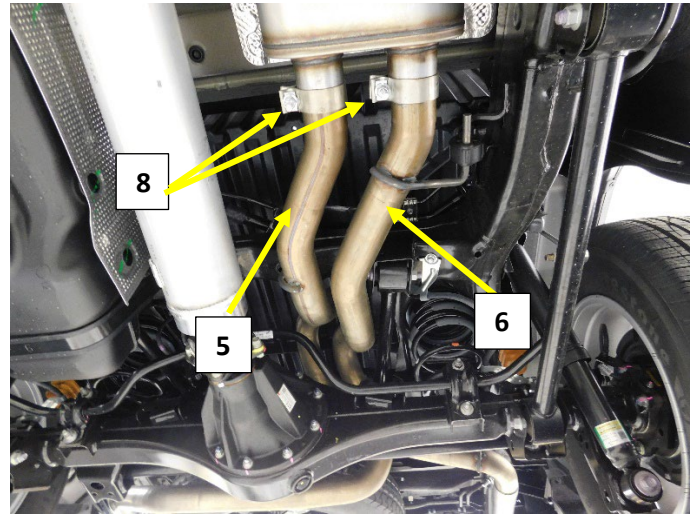

Figure.8
7. Install a supplied 2.5" band clamp (8) on each muffler outlet. Fig.8
8. Install the Left Muffler Outlet Pipe (6) into the mufflers left (drivers side) outlet. Install the rubber isolator on to the hanger rod and frame hanger. Rotate the outlet pipe to a $\frac{1}{2}$ to $\frac{3}{4}$ " clearance on the upper 4 link bar. Tighten the clamp just enough to prevent movement. Fig.8/9
9. Install the Right Muffler Outlet Pipe (5) into the mufflers right (passenger side) outlet. Rotate the pipe up and install the rubber isolator on to the hanger rod and frame hanger. Adjust the clearance between the two pipes to $\frac{1}{2}$ " just after the bend up into the chassis. Tighten the clamp just enough to prevent movement. Fig.8/10